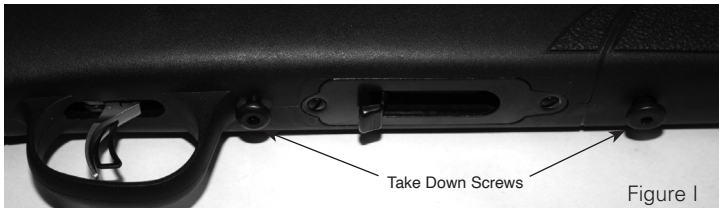

Figure 1
7. Remove the barreled/action from the stock by removing the takedown screws, using an Allen Wrench. (see Figure 1, this page)